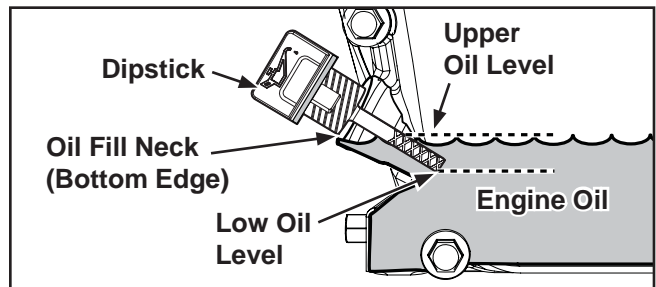

Figure 18. Dipstick Oil Level Check.
3. **Checking oil level with a dipstick.** Unscrew and remove the dipstick; wipe off oil. Reinsert the dipstick into the oil fill tube and rest the dipstick on the oil fill neck. Turn it counterclockwise until the oil fill cap drops down to the lowest point of the thread leads. **Do not** thread the dipstick cap onto the tube. See Figure 18.
4. If the level is low, add oil of the proper type (Refer to "Oil Type") and to the correct level. Always check the level before adding more oil. See Figures 18 and 19.